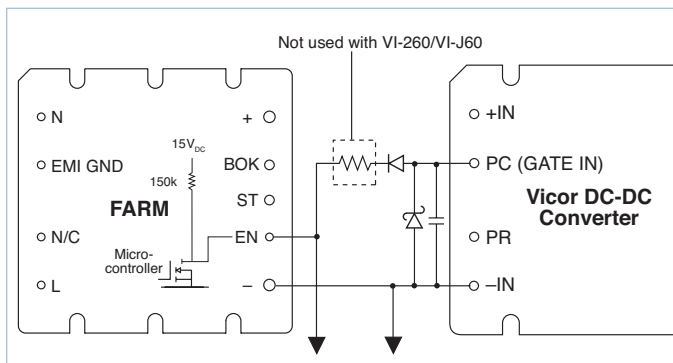

Figure 10 — Enable (EN) function
Enable (EN) Pin: (See Figure 10) The Enable pin must be connected to the PC or Gate-In pin of all converter modules to disable the converters during power up. Otherwise, the converters would attempt to start while the hold-up capacitors were being charged through an unbypassed current limiting thermistor, preventing the bus voltage from reaching the thermistor bypass threshold, thus disabling the power supply. The Enable output (the drain of an N channel MOSFET) is internally pulled up to 15V through a 150k Ω resistor.